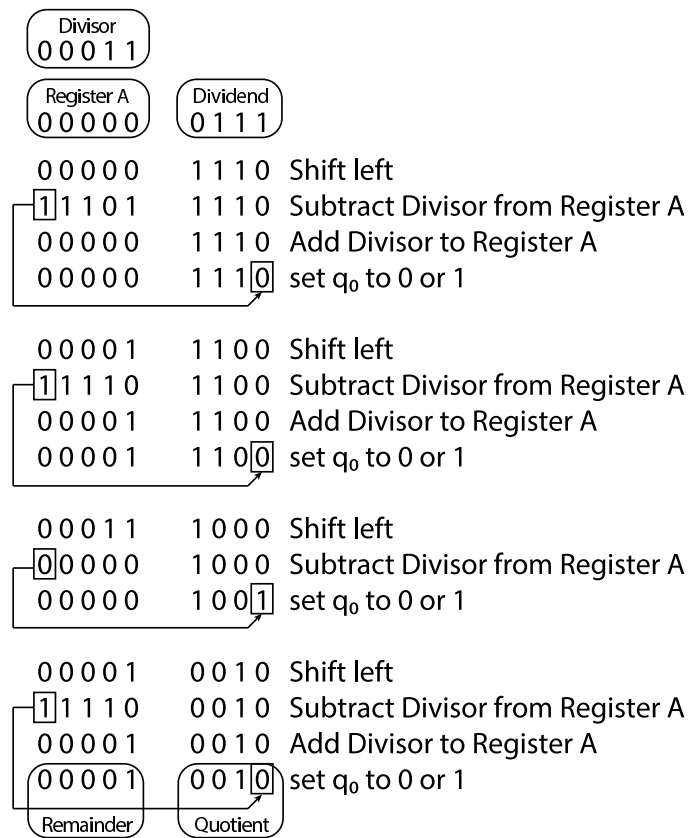
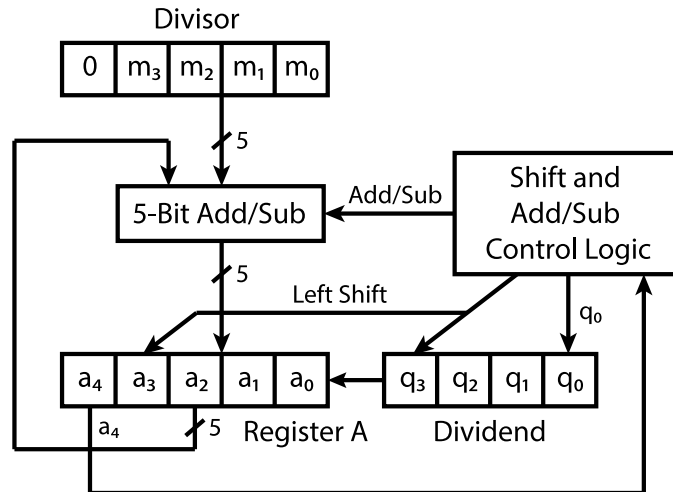

Figure 5: An example showing how the restoring divider works.
Figure 6: Block diagram of restoring divider.
Figure 5 shows an example of how the restoring divider works. This mimics what you do when you do long division by hand. In this specific example, number 7 (*Dividend*) is divided by number 3 (*Divisor*). The restoring divider starts with *Register A* set to 0. The *Dividend* is shifted left and the bit shifted out of the left-most bit of the *Dividend* (called the most significant bit or MSB) is shifted into the least significant bit (LSB) of *Register A* as shown in Figure 6.
The *Divisor* is then subtracted from *Register A*. This is equivalent to adding the 2's complement of the *Divisor* (11101 for the example in Figure 5) to *Register A*. If the MSB of *Register A* is a 1, then we restore *Register A* back to its original value by adding the *Divisor* back to *Register A*, and set the LSB of the *Dividend* to 0. Else, we do not perform the restoring addition and immediately set the LSB of the *Dividend* to 1.
1. Draw a schematic for the datapath of your circuit. It will be similar to Figure 6. You should show how you will initialize the registers, where the outputs are taken, and include all the control signals that you require.